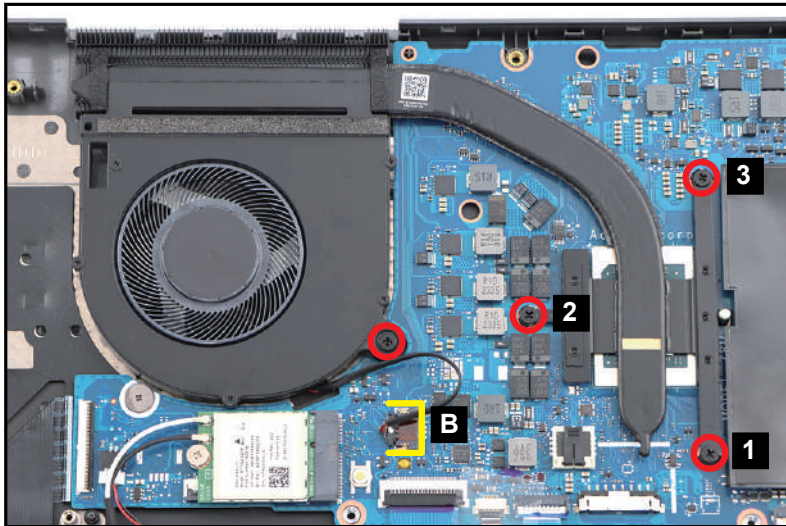

Figure 3-34. Thermal Module Removal
2. Disconnect the fan cable from the mainboard connector (B) (Figure 3-34).
3. Remove one (1) screw securing the fan. Then remove another three (3) screws (in reverse numerical order from three (3) to one (1)) securing the CPU heatsink (Figure 3-34).